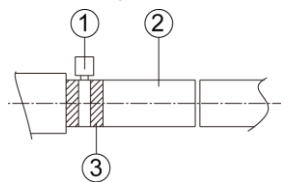
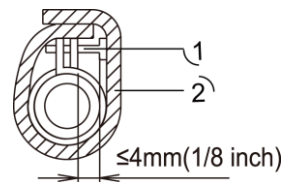

Fig 4.3.2
Fig 4.3.3
- (1) Insert the drain hose into the drain hole and tighten it with tapes, as shown in Fig 4.3.2.
- (2) Tighten the pipe clamp, with the distance between screw nut and hose smaller than 4mm (1/8inch).
- ① metal clamp(accessory)
- ② drain hose(accessory)
- (3) Use sealing plate to make the pipe clamp and hose insulated, as shown in Fig.4.3.3.
- ② thermal sponge(accessory)